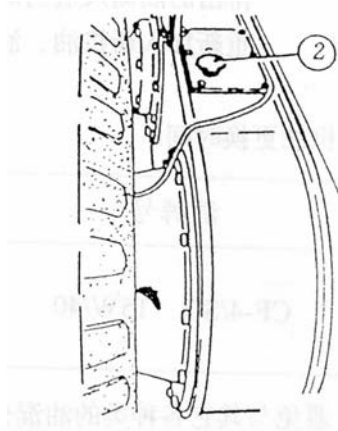
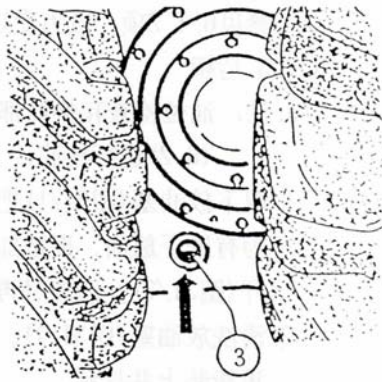

Fig. 32-1
Fig. 33
3. Unscrew the vent cap (Fig. 32-1/2), add new oil to the middle of oil level indicator (Fig. 33/3), namely, the highest oil level.
4. Assemble the vent cap (Fig. 32-1/2) and tighten, capacity: about 23L in each tandem box, it is required to reach the middle of oil level indicator.
2. Remove the vent cap (Fig. 32-1/2), then fill oil if necessary.